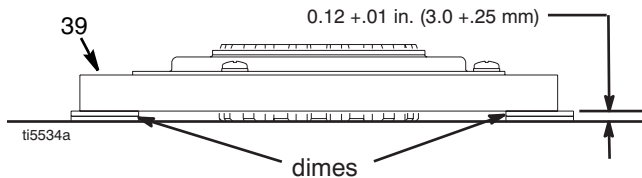

FIG. 8
- FIG. 8. Lay two stacks of two dimes on smooth bench surface.
- Lay armature (39) on two stacks of dimes.